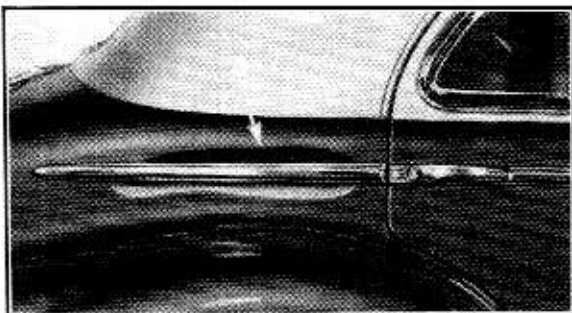

Fig. 1-98. Showing the damage resulting at "A" from "cross jacking" out the quarter panel in correcting a "bowed" rear door condition.
- above the wheel housing, see Fig. 1-98, or in the